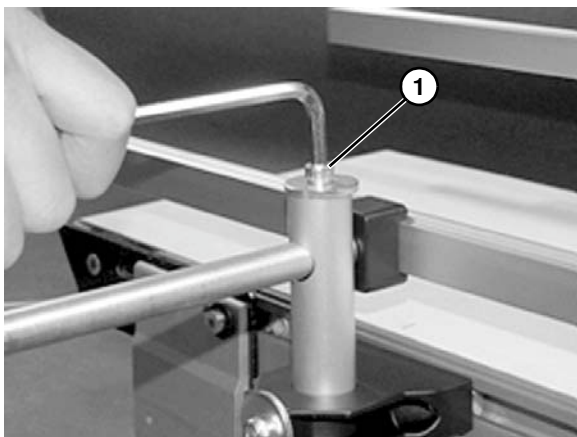

Figure 28
6. Adjust rail width with top screw (**Figure 28, item 1**).